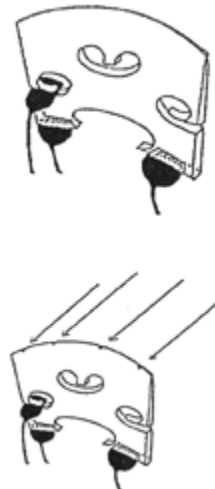

Fig. 2
4. Affix the third oblong transducer into the one of the bridge wing slots (see fig. 2). If you want to achieve a brighter sound, attach the pickup to the high string slot, if you prefer a sound with more low end, use the low string slot.